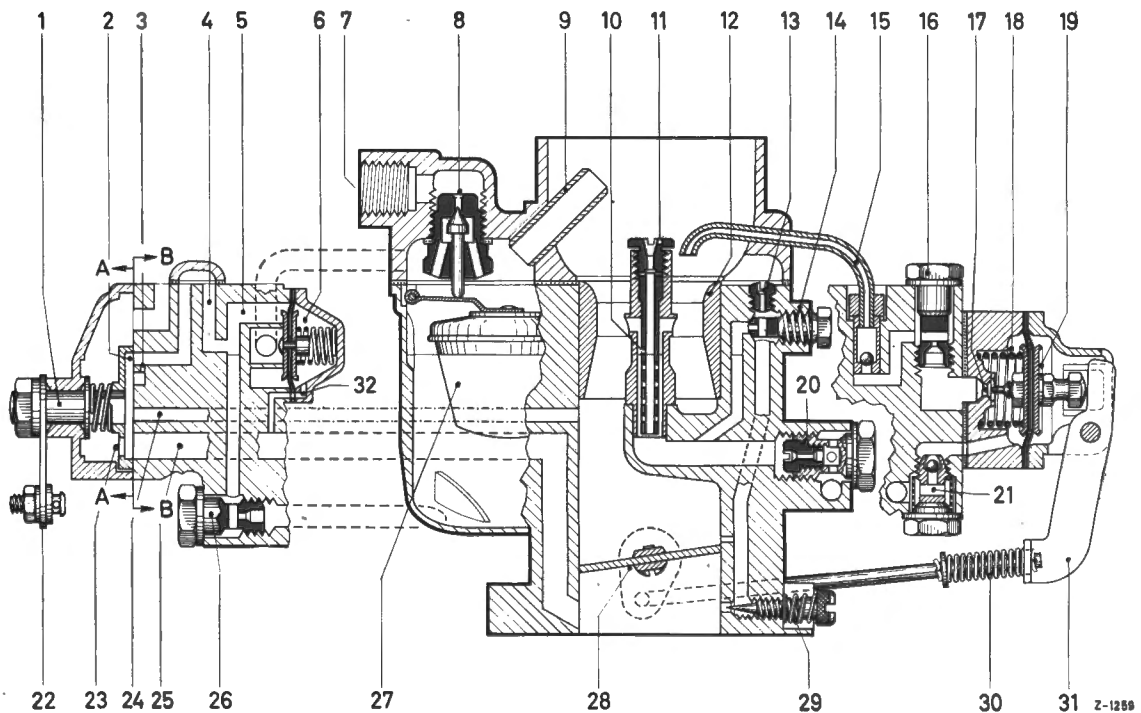

Fig. 07-2/1
The accelerating pump used for carburetor 34 PJCB is known as a "neutral" pump (Carburetor 32 PJCB has a mixture enriching pump). With the neutral accelerating pump it is possible for the engine under partial load and full load depending on the depression in the air horn, to draw additional fuel from the pump system by way of the injection tube (15) and the bore (17) without using the accelerating pump (Fig. 07-2/1).